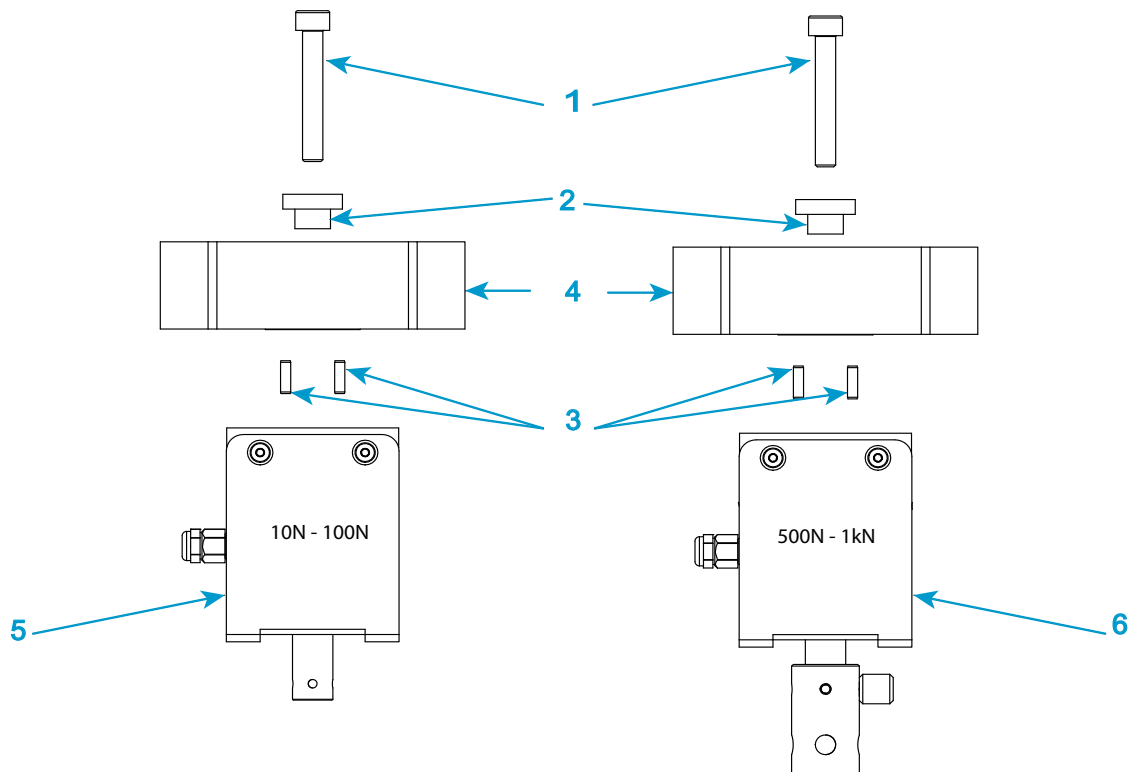

Figure 15. Install a 2519 series load cell - capacities 10 N through 1 kN
Legend for Figure 15
1. Refer to Figure 15 on page 80 and its associated legend.